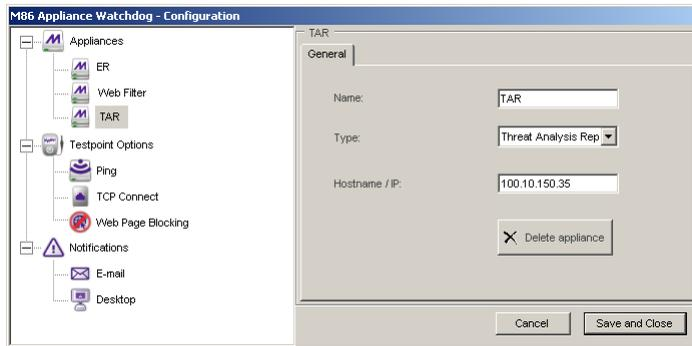

Fig. 1:3-4 Delete an appliance
4. After all appliances to be deleted have been removed from the tree, click **Save and Close** to remove the configuration for the appliance(s) from Watchdog, close the Configuration window, and to restart the service. The refreshed Status screen of the Administrator console displays your modifications (see Fig. 1:3-3).